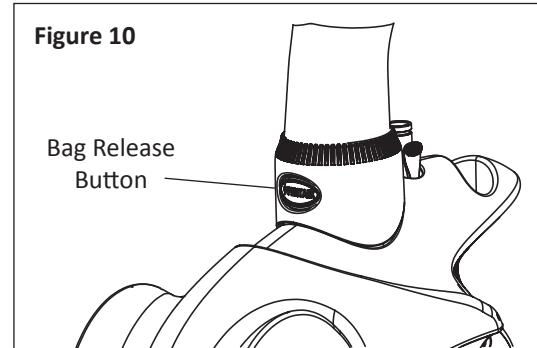

Figure 10
2. Press the release button on the cleaner vacuum tube and carefully pull up to remove the bag from the cleaner. See **Figure 10**.